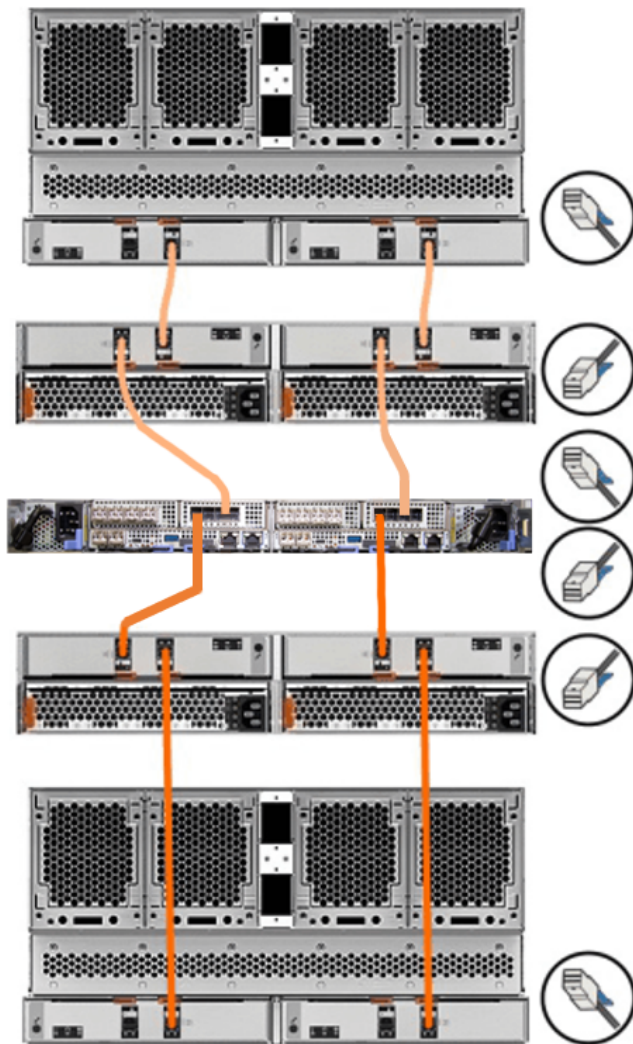

Figure 53. Connecting the SAS cables to control enclosure
- The FlashSystem models support 4-port SAS interface adapters. However, only ports 1 and 3 are used for SAS connections, as Figure 53 on page 96 shows.
- See “Enclosure location guidelines” on page 54 for the number and type of expansion enclosures that can be chained to SAS port 1 and SAS port 3 of a node canister. The expansion enclosures in this chain must be installed below the control enclosure (as shown in Figure 53 on page 96).
- Figure 53 on page 96 shows an example configuration of a control enclosure that is connected to two SAS chains.
- Figure 53 on page 96 is a generic cabling diagram intended to illustrate how to cable the different types of expansion enclosure. Some systems do not allow for a mixture of expansion enclosure types in the same chain. See Chapter 4, “Expansion enclosures,” on page 39 for details on the supported expansion enclosures for your specific system model.
Using the supplied SAS cables, connect the control enclosure to the expansion enclosure at rack position 1, as shown in Figure 53 on page 96.
To add further expansion enclosures, continue to connect the expansion canisters as shown in Figure 53 on page 96.